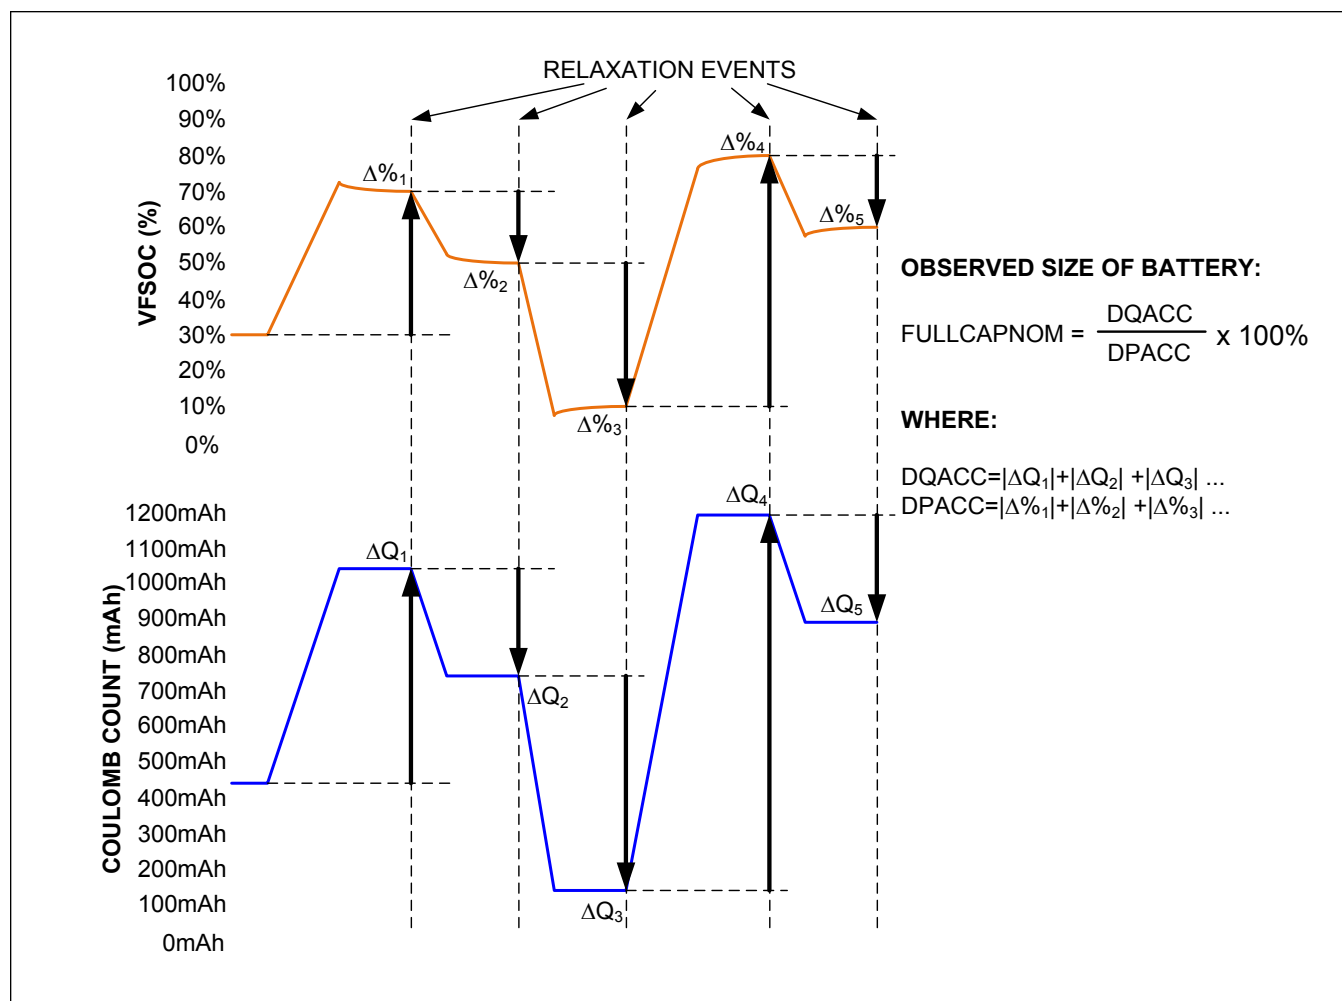

Figure 19. FullCapNom Learning
- **Cell Capacity (FullCapNom Register).** This is the total cell capacity at full, according to the voltage fuel gauge. This includes some capacity that is not available to the application at high loads and/or low temperature. The IC periodically compares percent change based on an open circuit voltage measurement versus coulomb-count change as the cell charges and discharges, maintaining an accurate estimation of the pack capacity in milliamp-hours as the pack ages. See Figure 19.